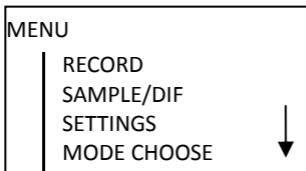

Figure 4
(2).Press the menu button to enter the main menu page, as shown in Figure 4.